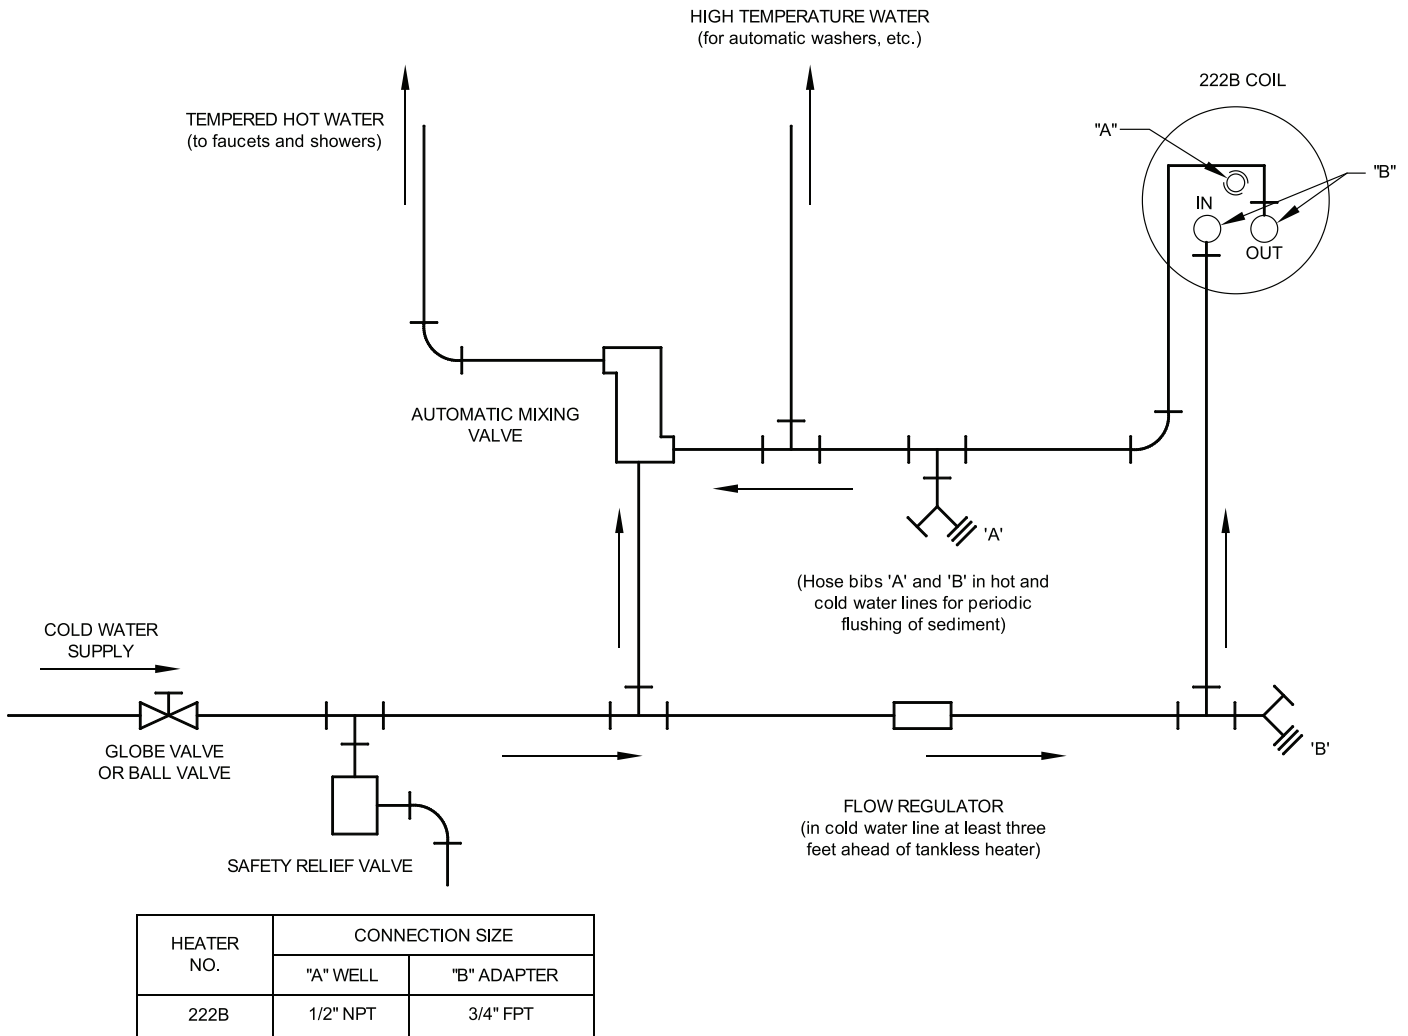

Figure 16: Schematic Tankless Heater Piping
- A. **CONNECT TANKLESS HEATER PIPING** as shown in Figure 16. See Table 2 for Tankless Heater Rating.